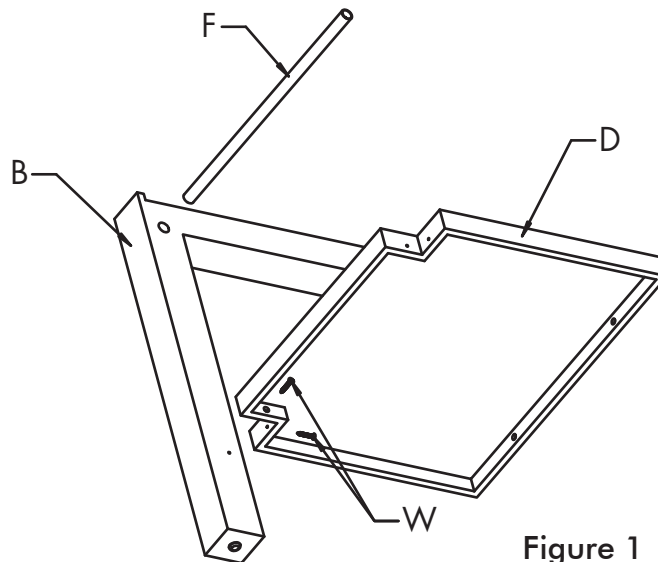

Figure 1
- Insert **Towel Bar (F)** in **Left Leg (B)**, then attach **Wood Shelf (D)** using **Shelf Screws (W)** as shown in Figure 1.